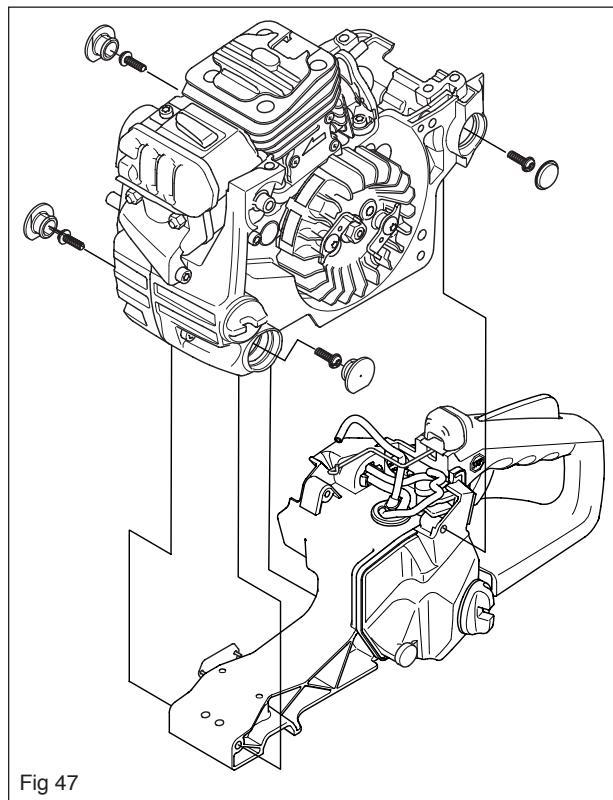

Fig 47
7. Remove the tank unit. See figure 47.
1. Fit the tank unit. See figure 47.